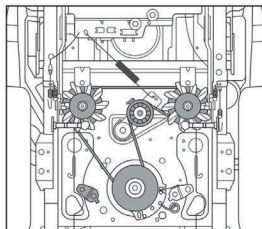

FIG.27A
2. RETIRE LOS TORNILLOS DE FIJACIÓN (A, FIG.27A) DEL EMBRAGUE ELECTROMAGNÉTICO (B FIG.27A).
4. RETIRE A RODA TENSORA (D, FIG.27A).
5. RETIRE EL MUELLE TENSOR (E, FIG.27A).
(F, FIG. 27A)